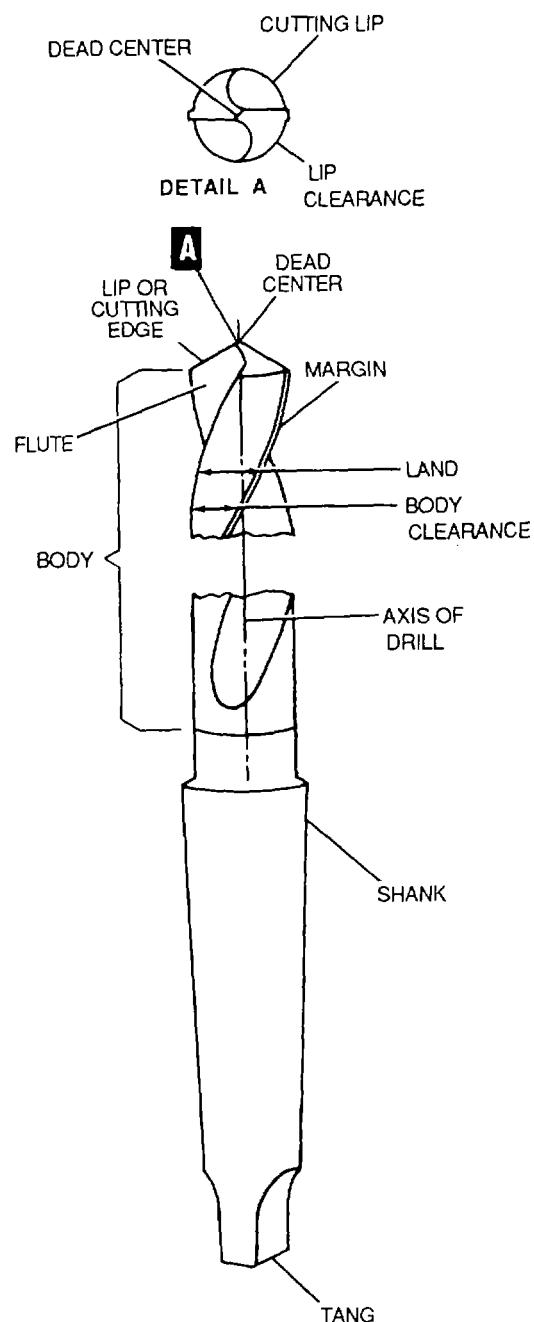

Figure 4-83. Typical Drill Bit
a. Description. A typical drill bit and its parts are shown in figure 4-83. Some of these parts are explained in the following paragraphs.